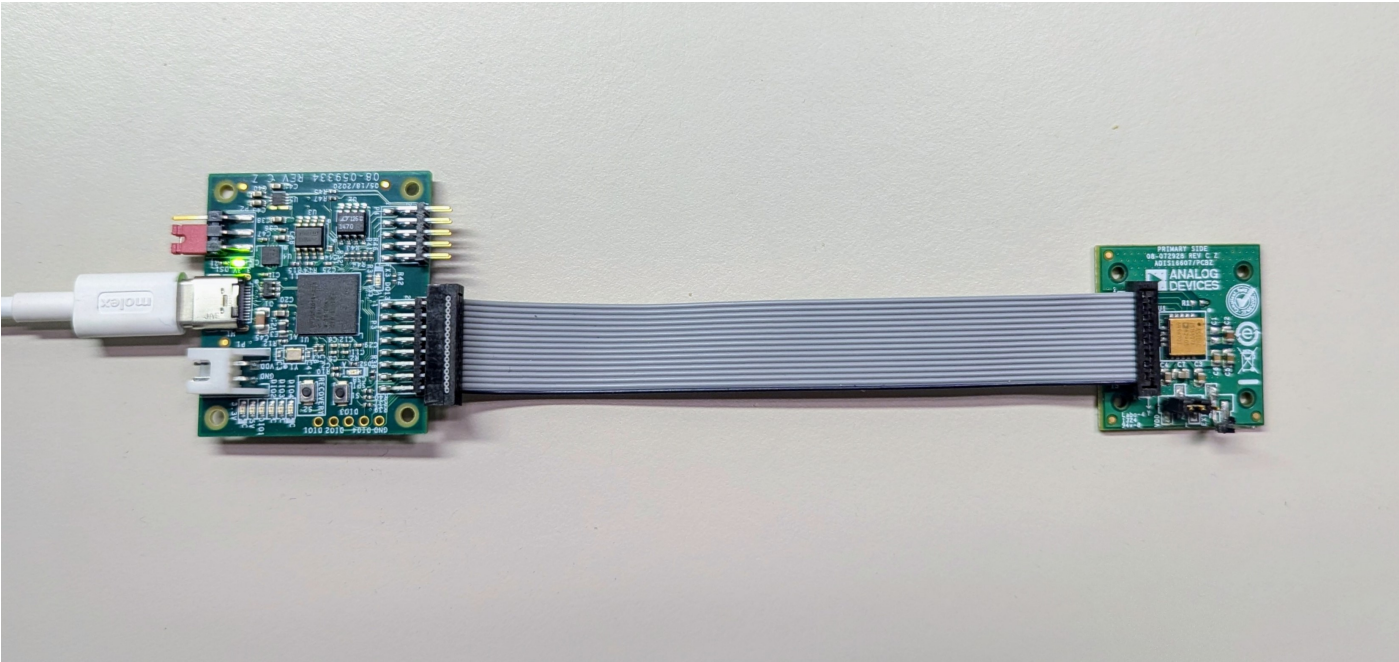

Figure 2. ADIS16607 Connected to the EVAL-ADIS-FX3
ADIS-FX3 using the flat ribbon cable included on the EVAL-ADIS-FX3 evaluation kit, as shown in Figure 2
3. Connect the ADIS16607-x/PCBZ and EVAL-ADIS-FX3 as shown in Figure 2.